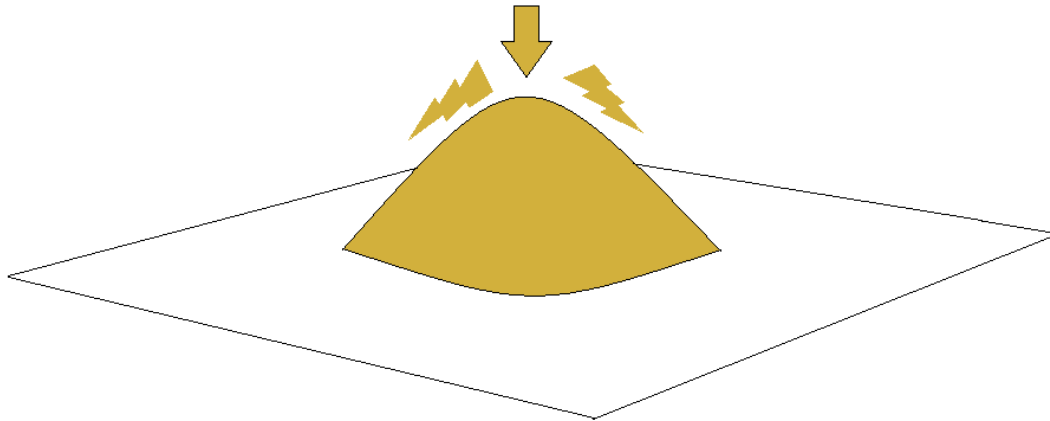

Figure 2: Conical pile
3. Place each shovel-full on the plastic sheet, slowly pour it out onto one edge of the clean sheet / tarpaulin (about 1.5m in from the edge) so that each sample is poured directly on top of the existing pile, therefore the sample should spill evenly down the sides of the pile mixing it as you pour. This is known as a *conical pile* – see figure 2 below.